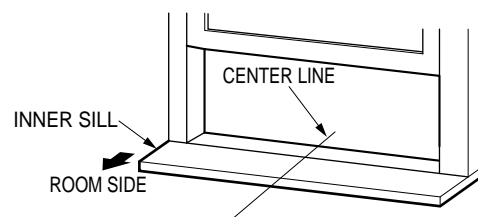

Figure 27
Open the window and mark center line on the center of the inner sill, as shown in Fig. 27.
- b. The bracket helps to hold unit securely in place. Be sure to place bracket edge flush against back of inner sill. See Fig. 27.